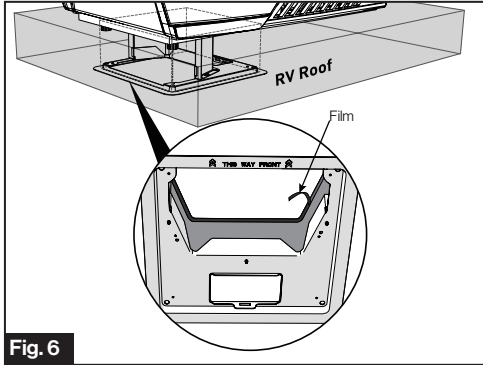

Fig. 6
- Pull to remove the film off the double sided sticky tape on the inner side of the lower duct divider. (Fig. 6)